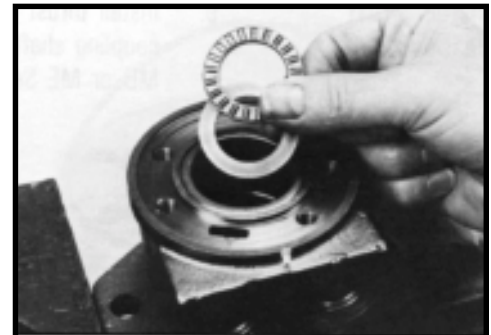

Figure 45
Assemble thrust washer & bearing 6. Assemble thrust washer (14) then thrust bearing (15) that was removed from the Series TB or TE Torqlink™. SEE FIGURE 45.